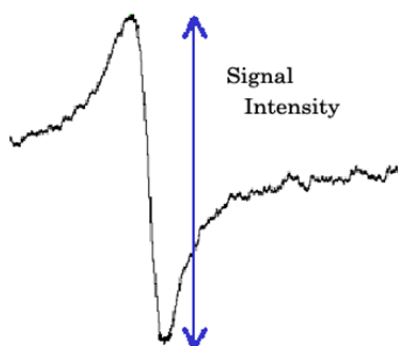

Fig 1. Reading of Signal Intensity
1. Record the signal using the condition obtained in Step 1 and check the signal intensity (Fig. 1: the height from the peak top to bottom).